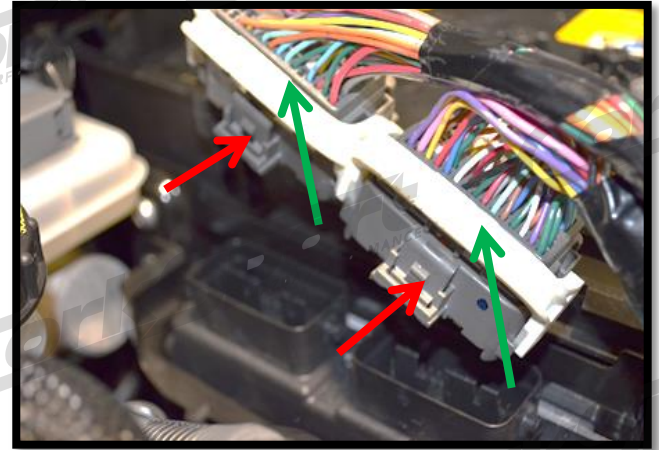

Figure 3c
- g) Disconnect the ECU plugs by pushing on the tab and pulling the white lock upward simultaneously (Figure 3c).
g) **Disconnect the ECU plugs** by pushing on the tab (red arrow in Figure 3c) and pulling the white lock upward simultaneously (green arrow in Figure 3c).
- j) Re-connect the ECU plugs (Figure 3c).